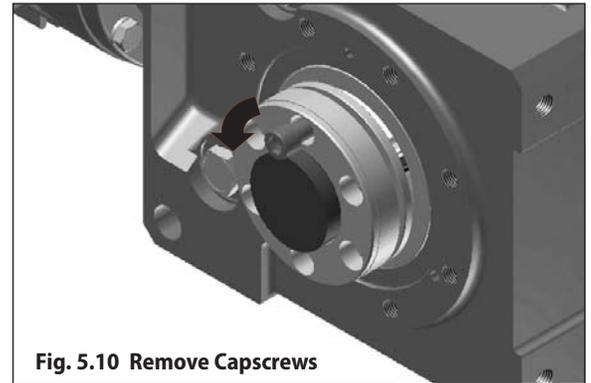

Fig. 5.10 Remove Capscrews
Step 4 – After the liquid penetrant has been allowed to settle, remove the capscrews one at a time (see Fig 5.10).